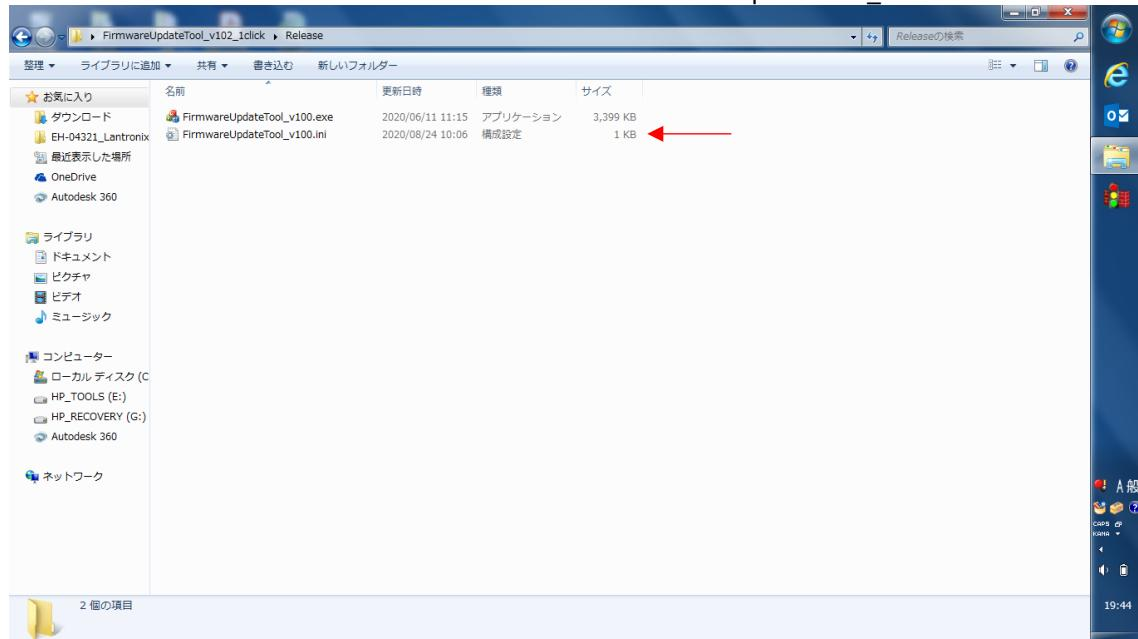

Fig. 8
- 4 Open “FirmwareUpdateTool_v100.exe” under “Release” folder. (see Fig. 8)